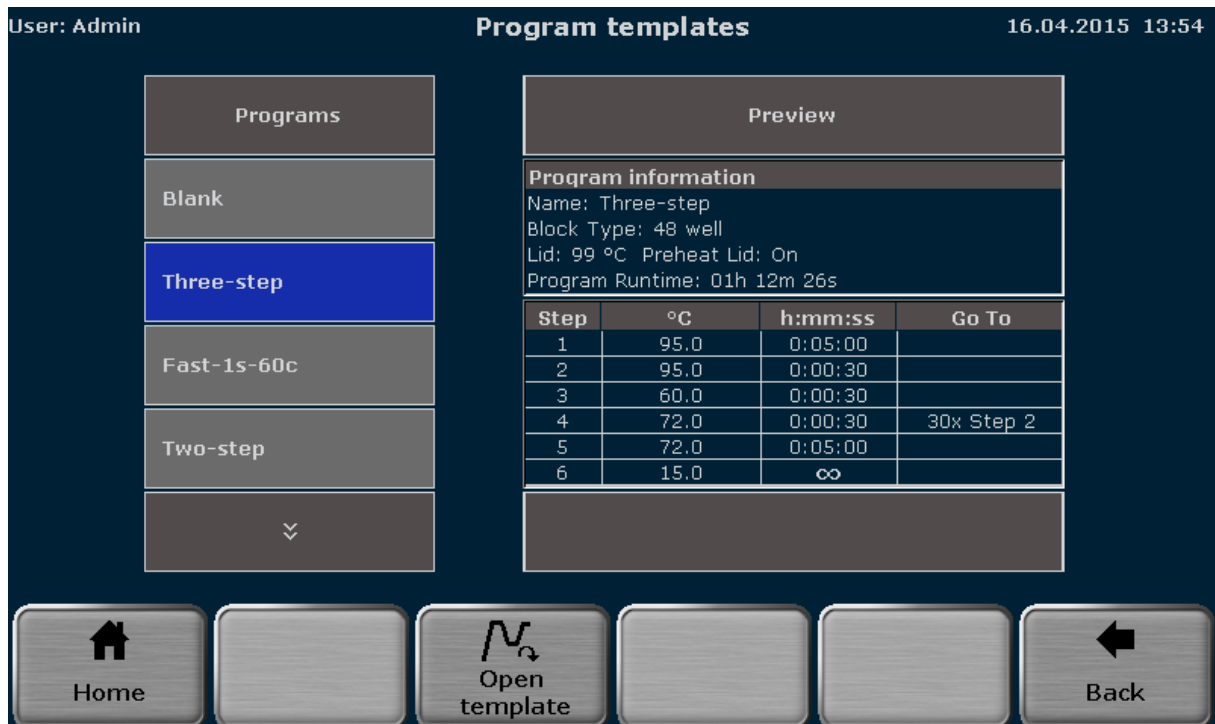

Figure 19 Biometra TRIO program template screen
4. The program template screen opens (see Figure 19). Search for a program template using the cursor keys